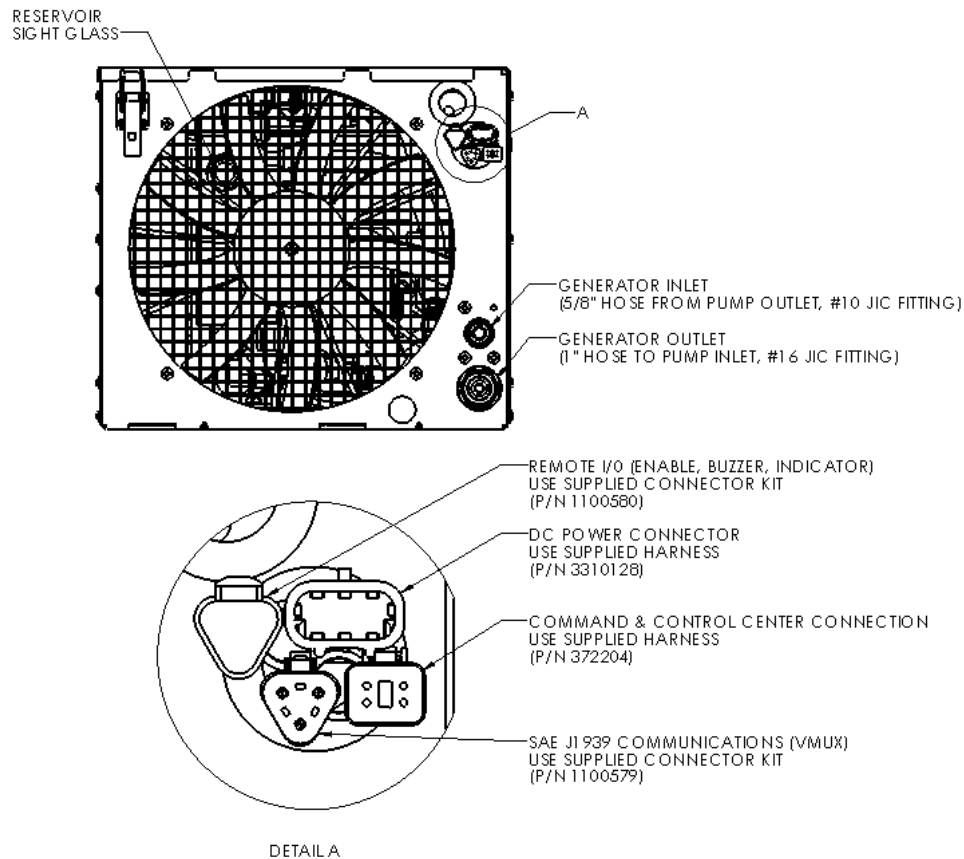

Figure 8 – Connection Interfaces (End View)
7. Install hoses and tighten hose ends, using the **Hose Installation Guidelines**. See Figure 8 for hose and harness connection locations.
9. Connect 12 VDC (vehicle battery positive) to the generator's system controller input (reference Figure 2 and Figure 8). Connect the RED wire from the system controller, marked "Vehicle +12V supply" to the vehicle's ignition circuit through a 30 amp fuse. Connect the BLACK wire to the vehicle's ground (vehicle battery negative).